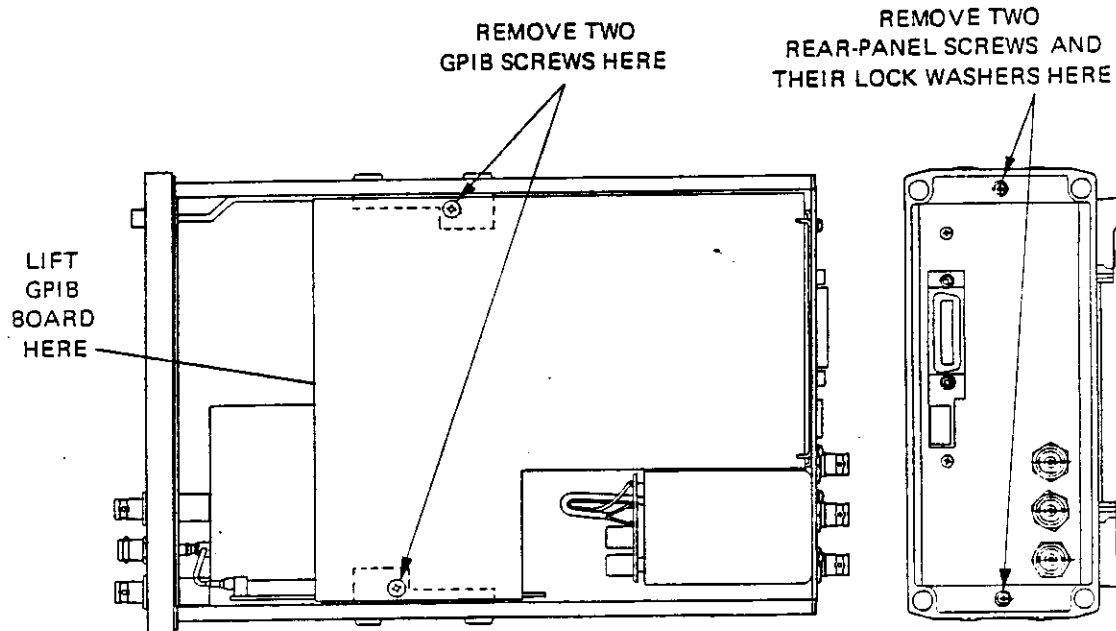

Figure 6.8 - GPIB Board Removal
- b. Refer to Figure 6.8. Remove the GPIB board from the unit by completing the following steps: